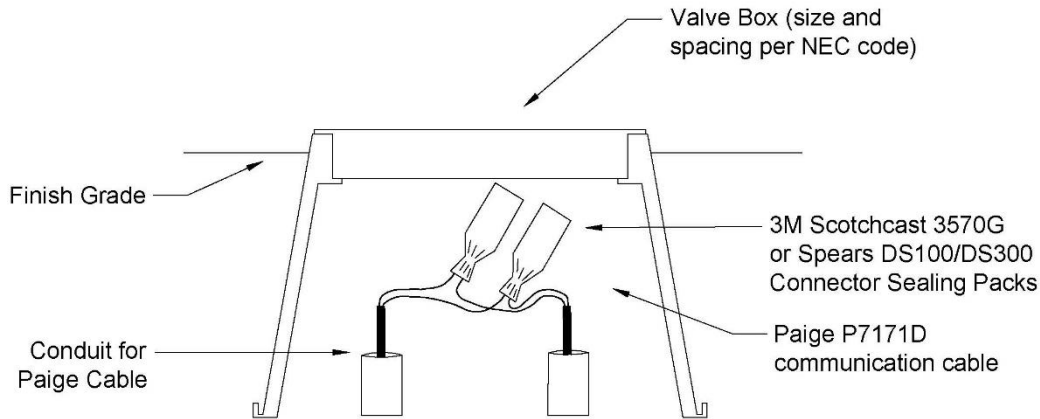

Figure 13 - Recommended wiring for Hardwire communication options with splices
- If wire splices are unavoidable, they must be completely insulated from soil and moisture using 3M Scotchcast 3570G Connector Sealing Packs (formerly 3M Scotchlok 3570 Connector Sealing Packs) or Spears DS-100 Dri-Splice Connectors with DS-300 Dri-Splice Sealant (Figure 13).